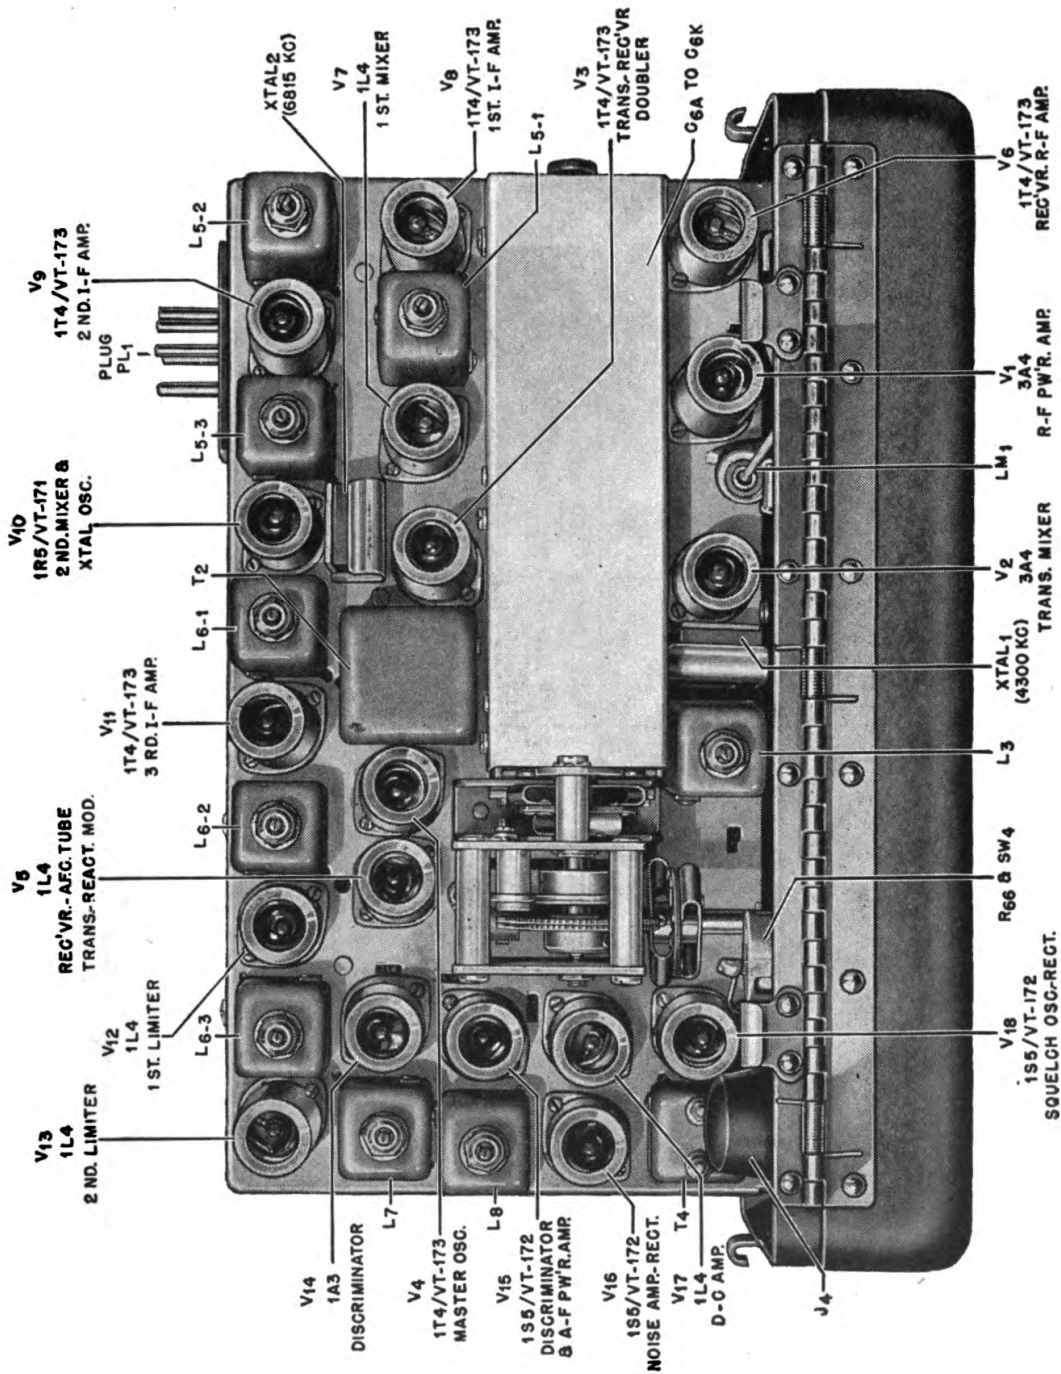

Figure 18. Radio Receiver and Transmitter BC-1000-A, Chassis Top View.
*c.* Burned out tubes can be located by following instructions in Burned Out Tube Location Chart in this paragraph. *It is not necessary, nor is it* recommended that any but the defective tubes be replaced. If the defect cannot be located as a burned out or broken tube, as indicated by the tests in the chart, don't attempt further analysis unless complete test equipment is available. When replacing tubes, make sure that the proper type of tube is used. Check this by reading the type number of the tube removed from the socket, and also by comparing the new tube with the tube number stamped on the chassis. (Tube layout is shown in Figure 18).